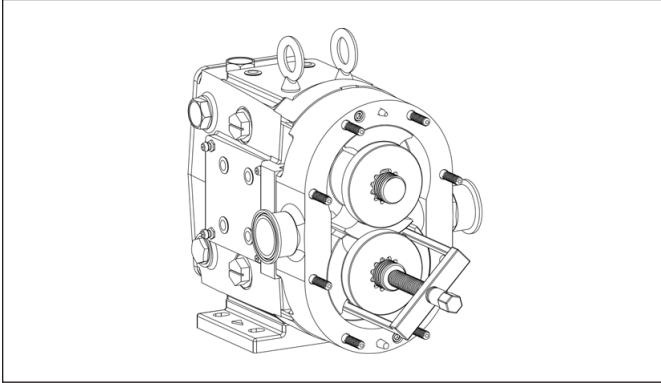

Figure 26. Removing Roters (Gear Puller)
4. Remove the rotors by orientating them perpendicular to each other and then pulling them out. It is important to be cautious with the rotors so that they are not damaged. If rotors are difficult to remove, use a nylon or wood lever to pry them out without damaging the body or the rotors. If needed, use a gear puller in orientation shown in *Figure 26* and handle with caution.